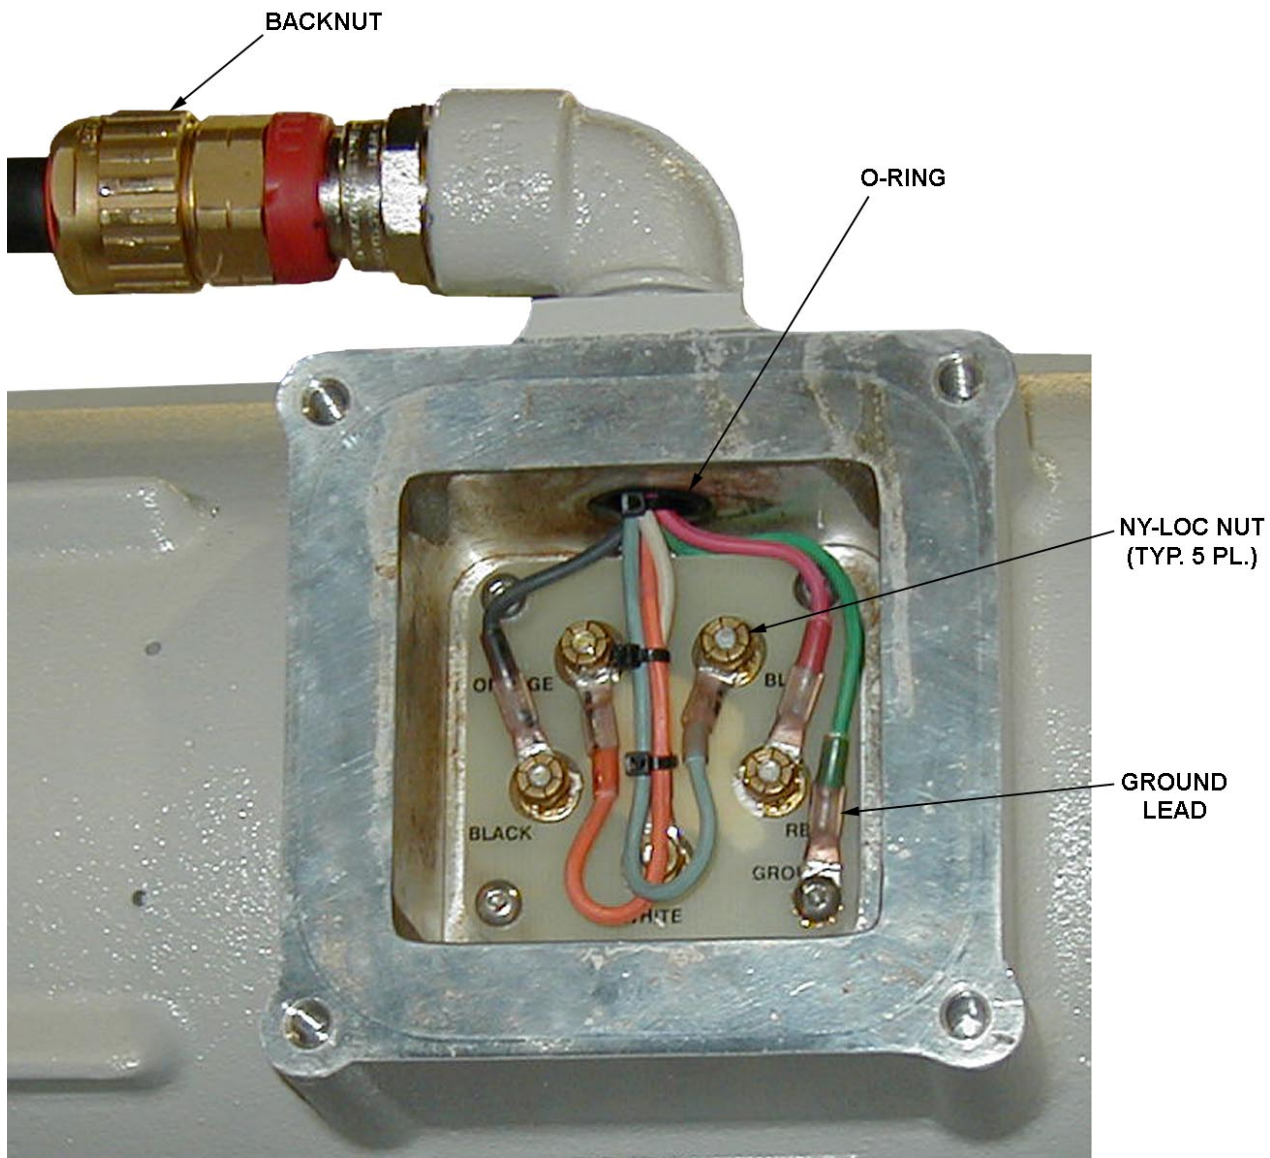

Figure 2 Motor Cord Connections to Terminal Block
2. Carefully feed the wires through the elbow installed in the motor junction box (Figure 2).